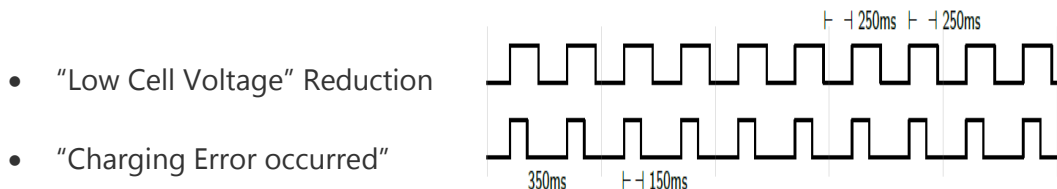

Figure 2-12 Sound indicator timing
- Pulse patterns are shown in the Figure 2-12 Sound indicator timing